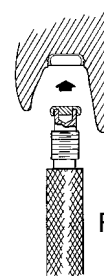

Fig. 13
12. The Locator Male Seating Tool is used to firmly push a Locator Replacement Male into the empty metal denture cap (Fig. 13). The replacement male must seat securely into place, level with the rim of the cap (Fig. 14).